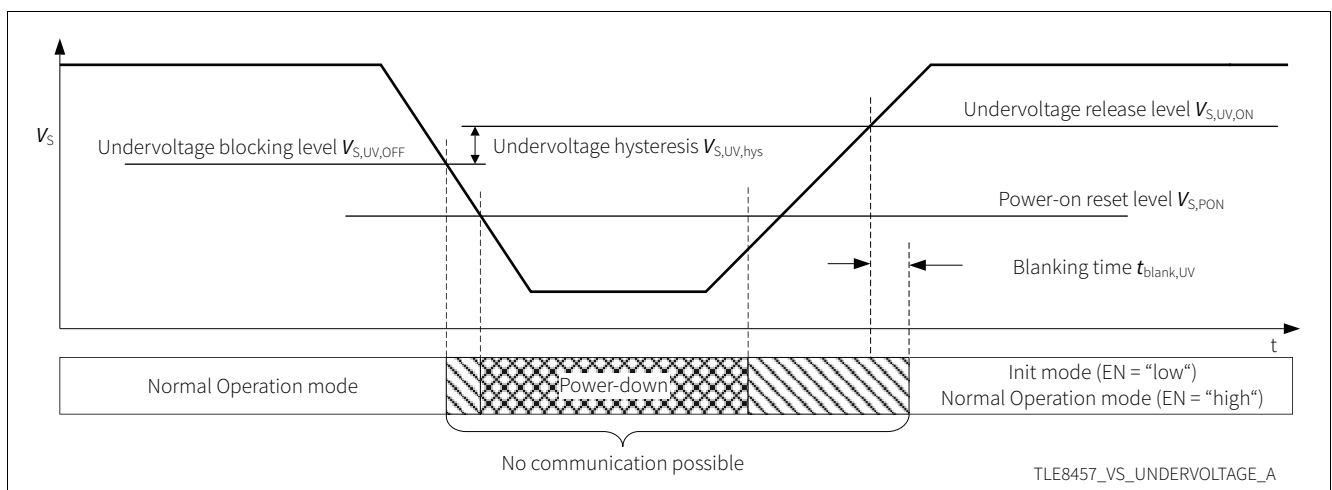

Figure 10 V_S undervoltage detection
- In case the power supply V_S drops below the power-on reset level $V_{S,PON}$ the TLE8457 not only blocks the transceiver communication, it also changes the operation mode to Init mode after recovery of V_S , see Figure 10. In Init Mode the TLE8457 indicates a power-up event on the RxD pin. The power-on reset detection is active in all operation modes.